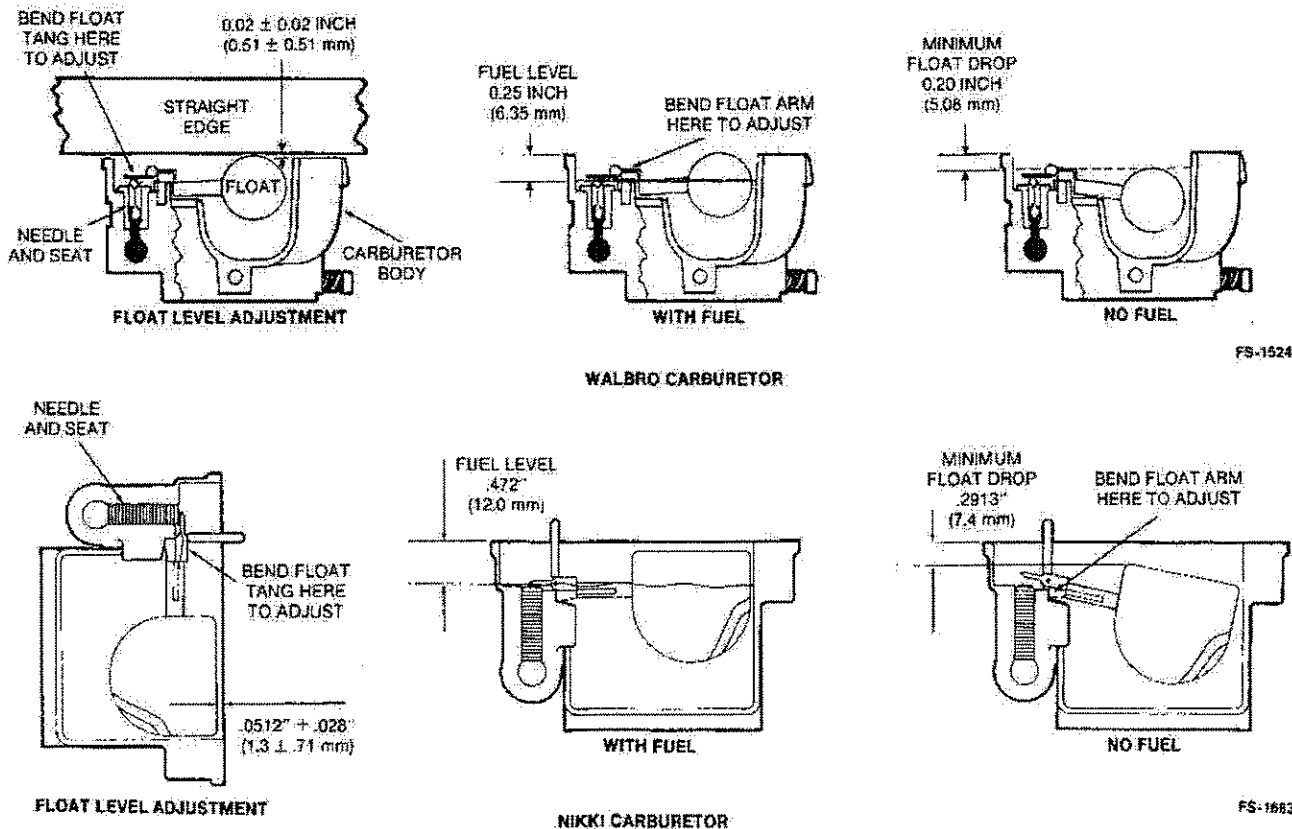

FIGURE 4. CARBURETOR FLOAT LEVEL ADJUSTMENTS
2. Gently push float tang down until needle just seats. (Figure 4). Measure float level; adjust if necessary. Release float tang and measure float drop; adjust if necessary. When checking float level and drop, measure to float body, not seam.
2. Turn carburetor on its side and measure float level (Figure 4). Adjust float level only if necessary. Measure float drop (the distance from the top of carburetor body to top of float). Adjust only if necessary.